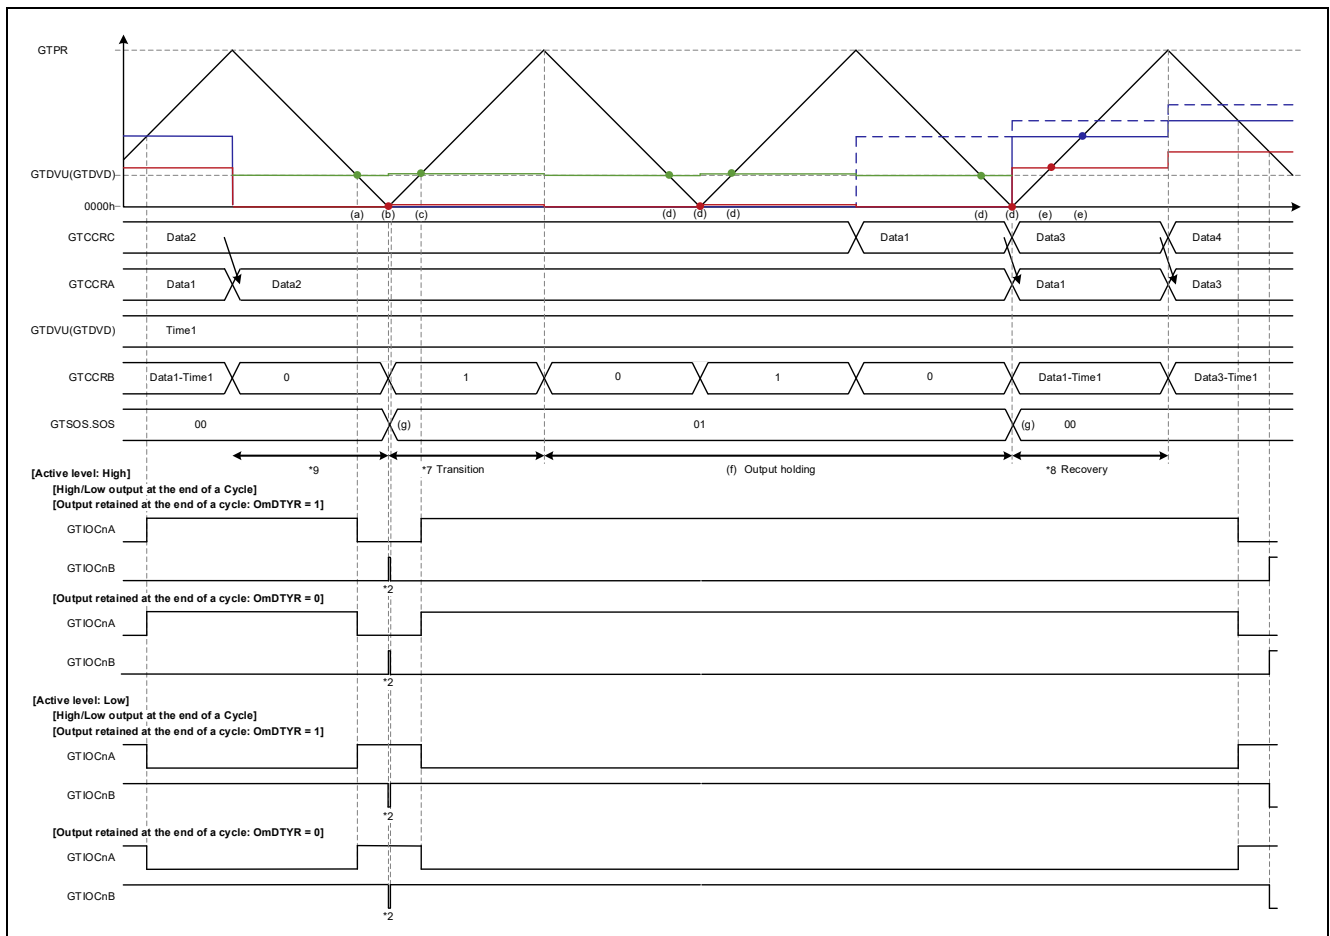

Figure 1.94 Triangle-Wave PWM Mode 2 Operation Example
- Operation Example 4: Figure 1.94 Triangle-Wave PWM Mode 2, Abnormal Value (Transfer at Crest)/Normal Value (Transfer at Trough), cautions 2, 7, 8, and 9
Figure 1.94 shows an operation example of transfer of 0000 0000h to GTCCRA via buffer transfer at crest and return via buffer transfer at trough of a normal value in triangle-wave PWM mode 2